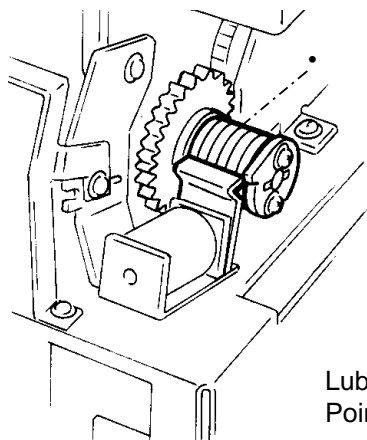

Figure 4. Paper feed clutch
9. Lubricate the paper feed roller clutch with oil, P/N 070P00095 (USO) or P/N 600T90393 (RX) (figure 4).
10. Lubricate the drive gears with silicone grease, P/N 70P00027 (figure 4).